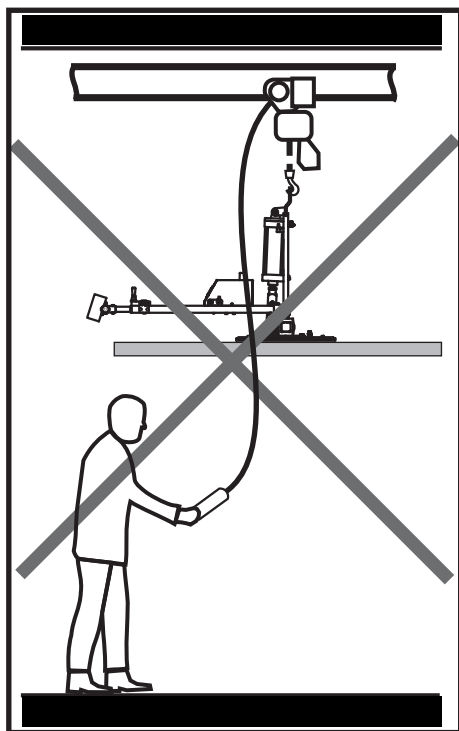

Figure 06
- Standing under suspended loads (see Figure 06 on page 7).